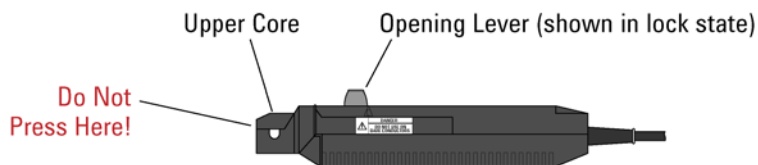

Figure 6 Use the Opening Lever
- 3 Slide the probe's Opening Lever into the **Locked** position as shown in Figure 6.